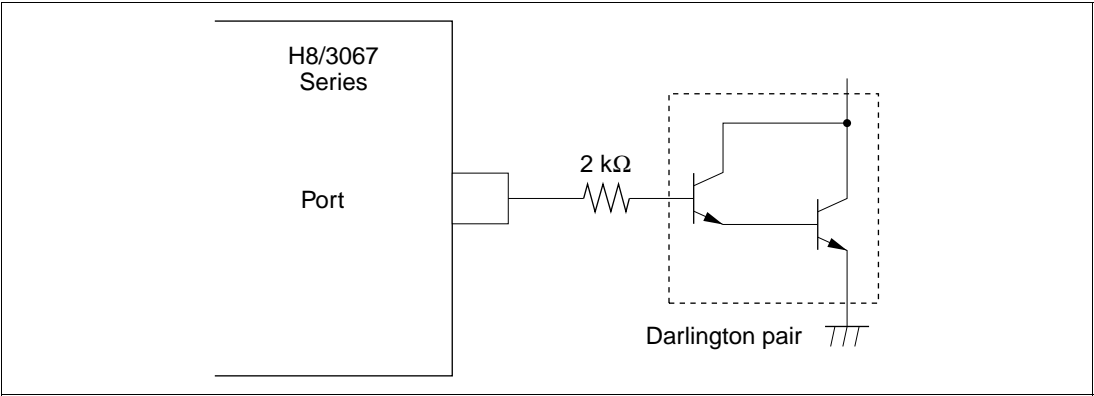

Figure 21.1 Darlington Pair Drive Circuit (Example)
2. When driving a darlington pair, always insert a current-limiting resistor in the output line, as shown in figures 21.1 and 21.2.